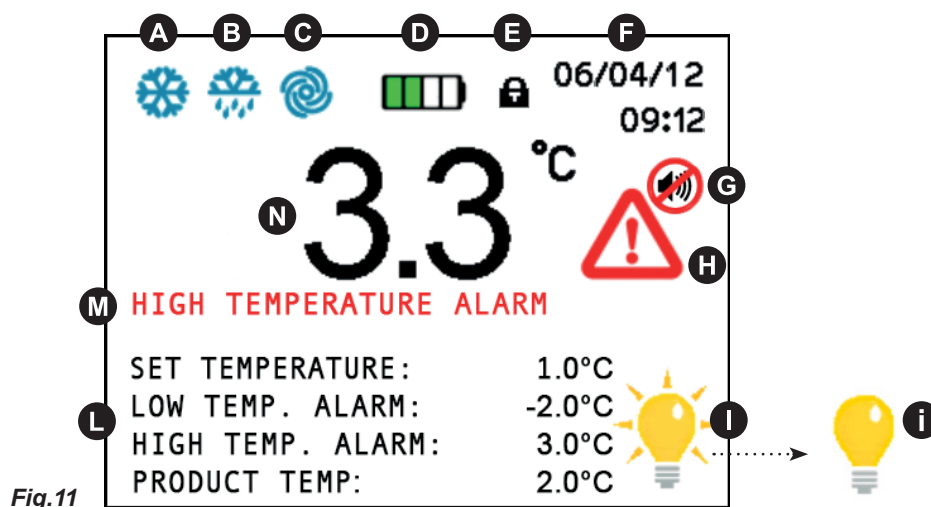

Fig.11
- Display (1). Showing and controlling the temperature and the various machine functioning states
- Capacitive **touch-buttons** (2), (3), (4), (5), (6), (7). Allow various functions according to the OSD (on screen display) menu shown on the display
- **ON/OFF touch-button** (8). Allows the display/appliance switching ON and OFF
- **MENU touch-button** (9). Allows to enter into the main menu
- **HOME touch-button** (10). Allows (if back-lightened) to return back to the home (main) screen-shot
- **ESC touch-button** (11). Allows to return back to the previous menu
- **ENTER touch-button** (12). Allows to enter/confirm the variations made on the function/menu shown on the display
8.1.2 The display (1) and the functioning indications (*Fig.11*)